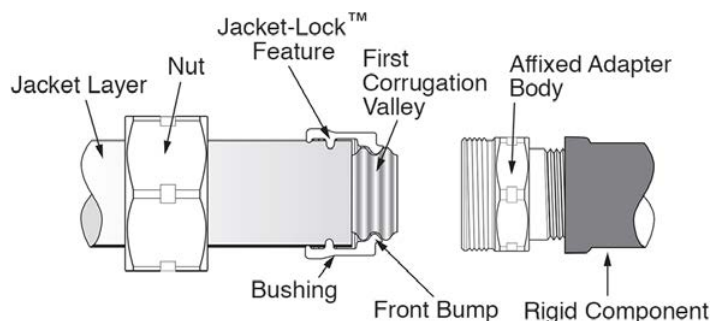

Fig. 4-6
STEP 4 POSITION BUSHINGS (FIG. 4-6)